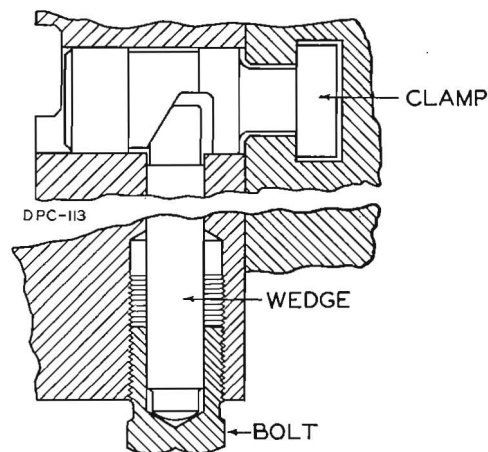

FIGURE 12
2. Remove four hexagon head ( $1\frac{1}{16}$ " across flat) clamp screws and wedges under them. See Figure 12.